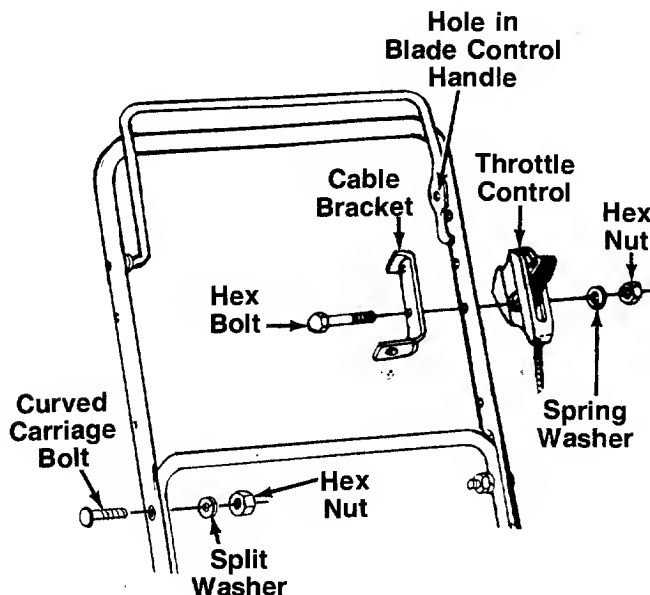

FIGURE 2.
2. Secure the upper handle to lower handle using the curved head bolts, split washers and hex nuts as shown in figure 2. Tighten securely.
The throttle control is attached to the engine. Attach the throttle control to the **left** side of upper handle as follows. See figure 2.